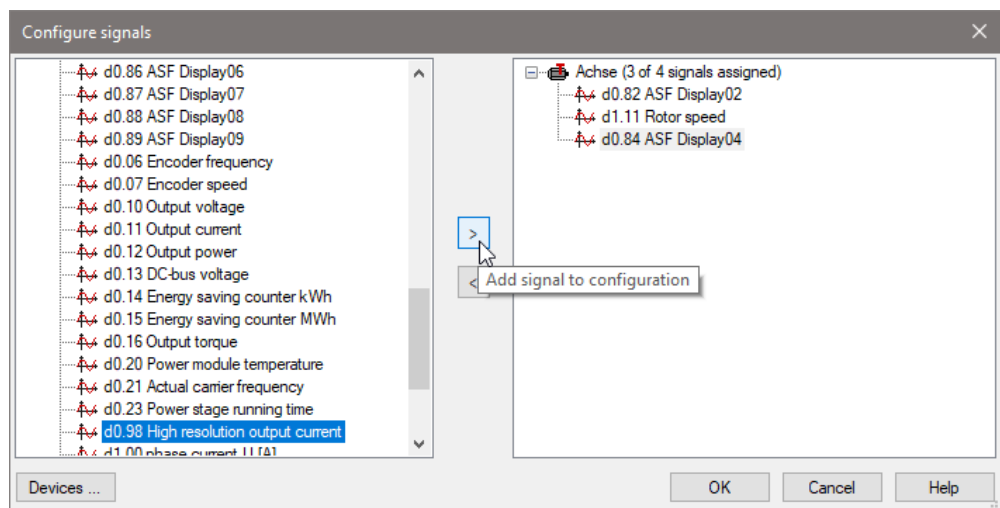

Abb. 18: Adding signals
① Signals:
- ▶ Add the following signals to the measurement by marking the signal and then clicking on ">" (see Abb. 18: Adding signals).